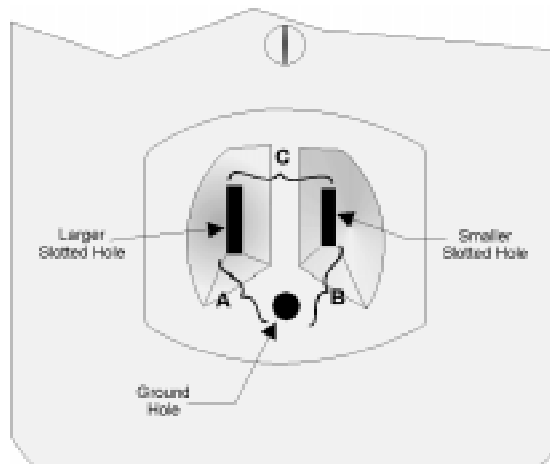

Figure 3-8: Outlet Voltage Measurement Points
1. Measure the AC voltage between the center ground post and each side of the outlet (see A & B in Figure 3-8). You should read approximately 120 VAC at measurement point B and nominal VAC at measurement point A.
2. Measure the voltage between the two slotted holes. It should be equal to the voltage reading at measurement point B. (See Figure 3-8.)